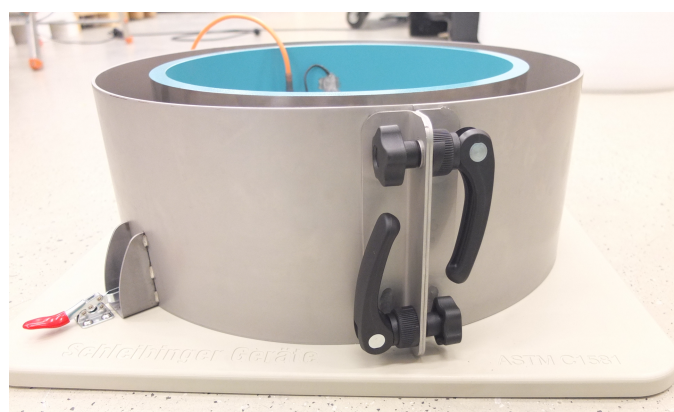

Figure 7: The outer ring closed.
- Set the outer stainless ring onto the base plate. Close the outer ring with two quick releases figure 7.